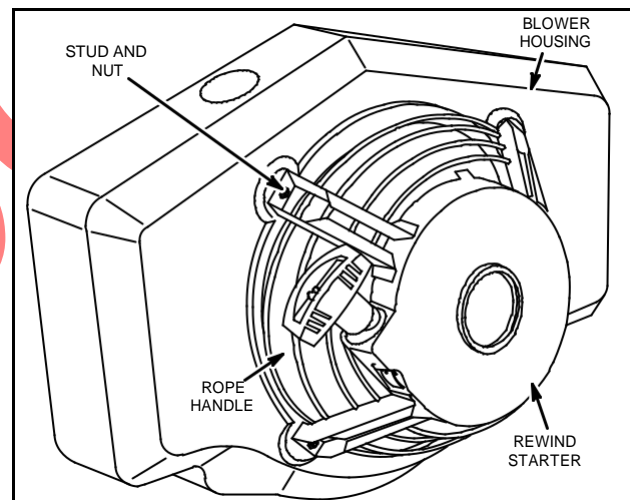

Fig. 1 – Rewind Starter
The rewind starter assembly used on Twin Cylinder Horizontal crankshaft engines is illustrated in Fig. 1. Rewind starter assembly is held on blower housing with four (4) studs, nuts and lock washers.